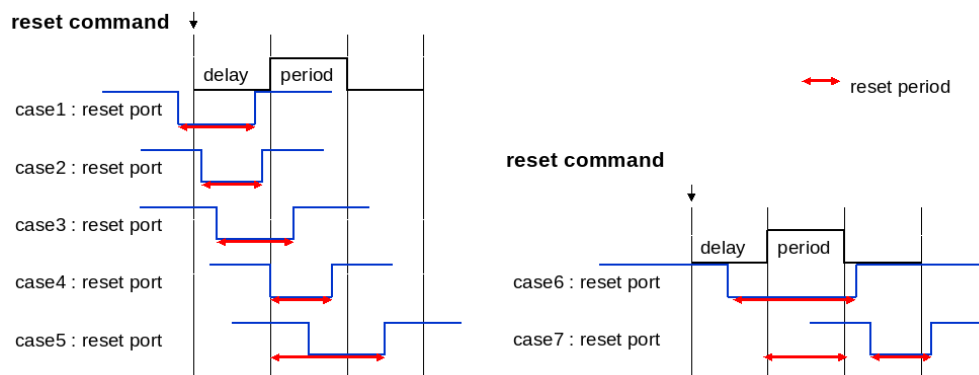

Figure 7.4: Relationship between software reset and hardware reset
- Users can reset model by software reset via Command IF or by reset signal via reset ports. The Figure 7.4 shows the relationship between software reset and hardware reset.